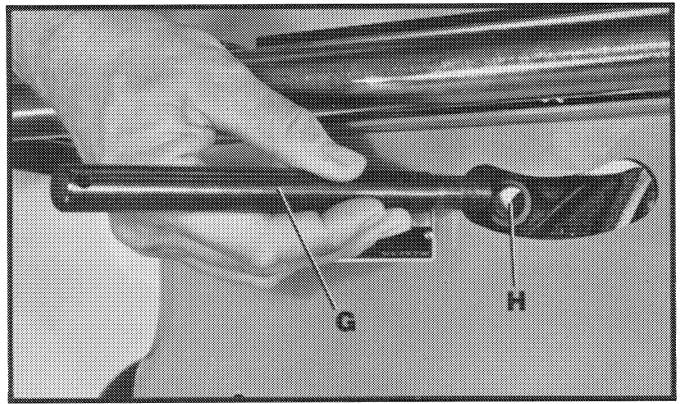
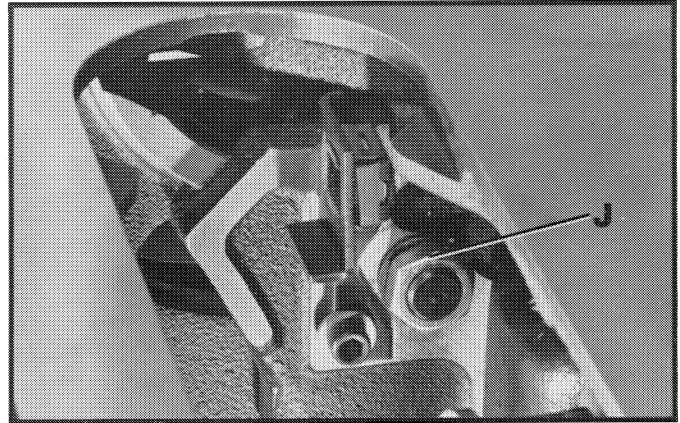
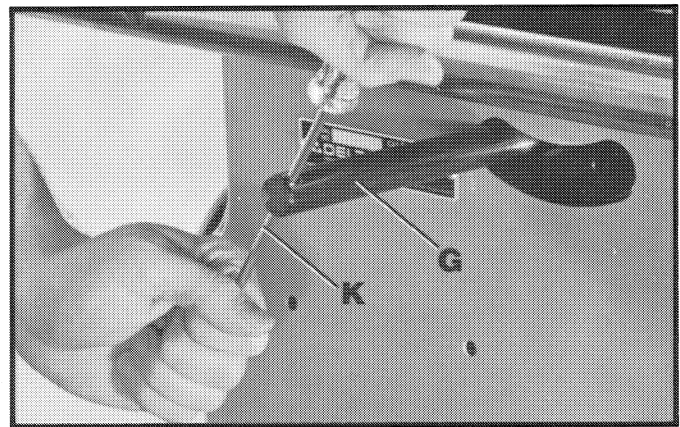

Fig. 5
Fig. 6
Fig. 7
8. Insert threaded end of support rod (G) Fig. 5, through the slot in the back of the saw cabinet and through the hole (H) in the rear trunnion. Fasten the support rod (G) Fig. 5, to the trunnion using the star washer and nut (J) Fig. 6. **NOTE:** Thread nut (J) onto threaded end of support rod as far as possible by hand. Then using a wrench to hold nut (J) Fig. 6, turn the rod (G) Fig. 7, using a small screwdriver (K) or similar device in hole in end of rod with (G) as shown.